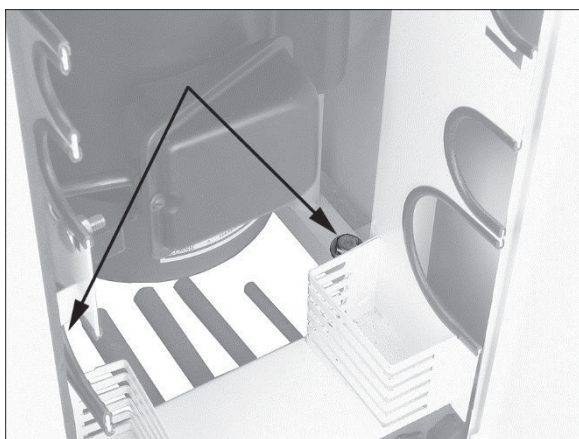

Figure 2
2. Use ratchet wrench with extended socket to unscrew two bolts securing machine to pallet (Figure 2).